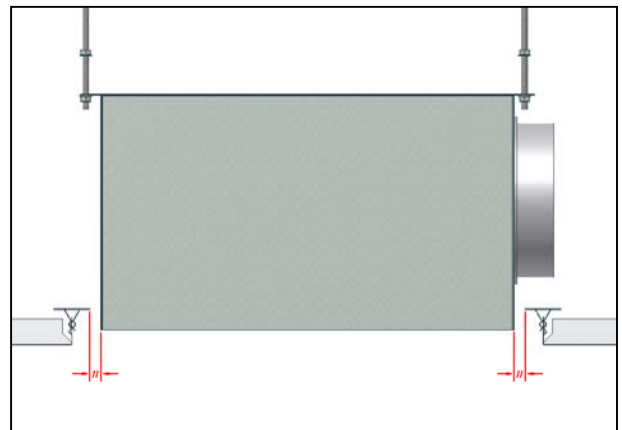

Figure 1: Centralise Plenum
1. Install the Plenum Box, suspending it from its mounting holes with Drop Rods (supplied by others). Centralise the Plenum in both directions within the opening where the Diffuser is to be fitted (see figure 1).